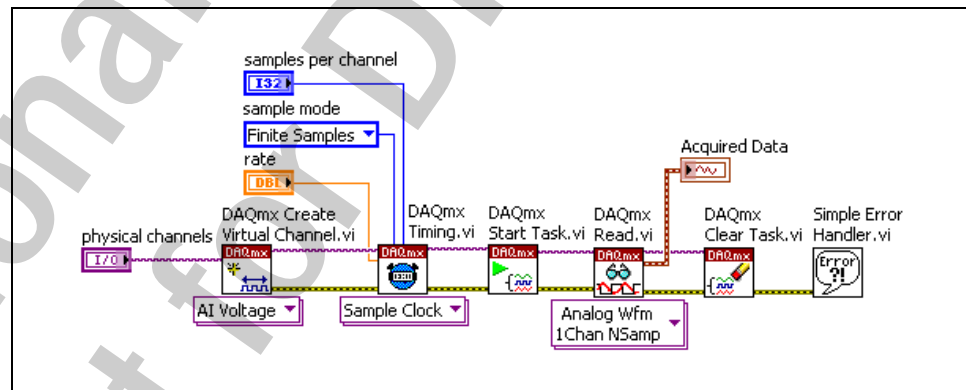

Figure 3-7. Finite Buffered Acquisition VI Block Diagram
3. Create the block diagram to perform a buffered acquisition of a finite number of samples, as shown in Figure 3-7, using the following items: